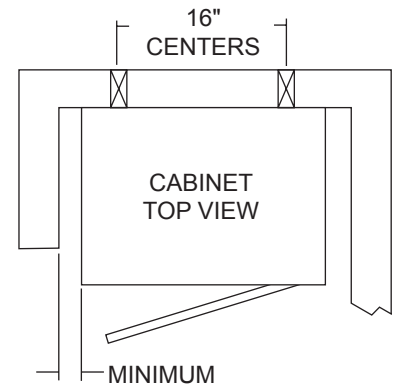

Figure 8
For greater security the cabinet must be fastened to a solid surface with a minimum space on either side. Ideally the cabinet would be installed on the side wall of a closet. (See Figure 8)
The (4) mounting holes in the rear of the cabinet must line up with the 16" centers of the wall studs. Drill new holes in the cabinet if necessary. (See Figure 8)